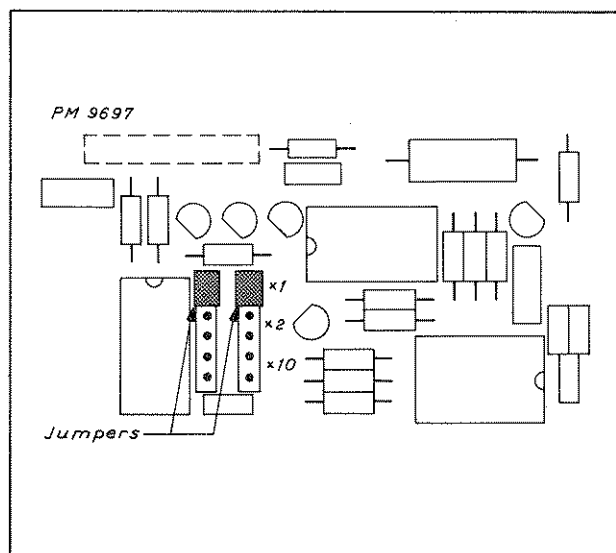

Fig. 6.5 Component layout PM 9697.
- Find the two jumpers BU103 and BU104 on PM 9697, see Fig. 6.5.